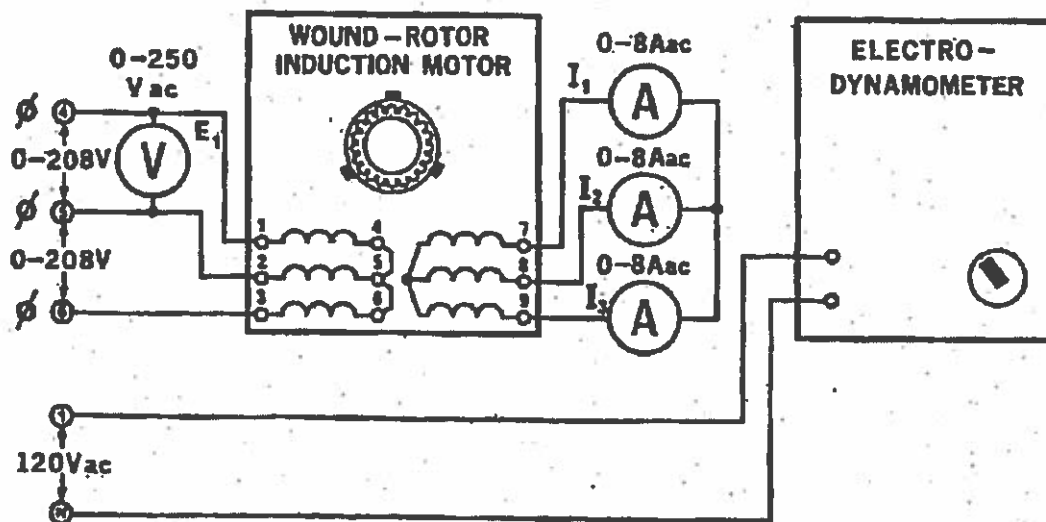

Figure 50-1.
1. Using your Three-Phase Wound-Rotor Induction Motor, Electrodynamometer, Power Supply, AC Ammeter and AC Voltmeter, connect the circuit shown in Figure 50-1. Note that the three stator windings are connected to the variable 3 ϕ output of the power supply, terminals 4, 5 and 6.